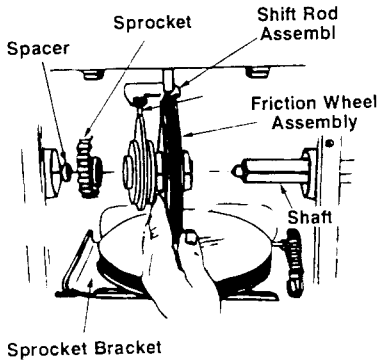

FIGURE 33
- Position the friction wheel assembly up onto the pin of the shift rod assembly and slide the shaft through the friction wheel. See figure 33.